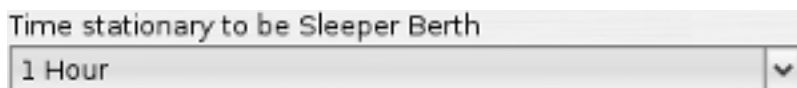

Figure 5.42. Time Stationary to be Sleeper Berth Setting
2. Under the "GPS Device Settings" section change the "Time stationary to be Sleeper Berth" setting to the desired value see Figure 5.42, "Time Stationary to be Sleeper Berth Setting".